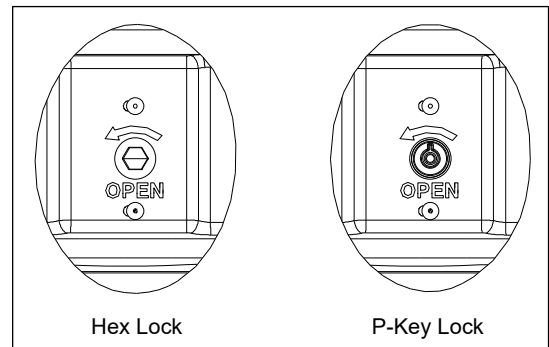

Figure 4 R02 Lock Options
1. Use a p-key or hex key to remove the cover from the base (quarter turn counter-clockwise, Figure 4). Set the cover aside.